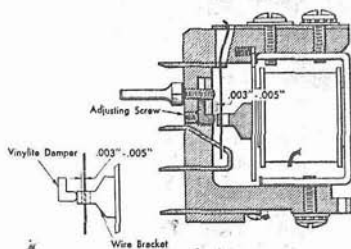

Figure 20
- Figure 20. The damper screw should be adjusted to allow .003" to .005" movement between the vinylite damper and the wire bracket before the wire bracket can move any contact wire. If the screw is loosened, the vinylite damper must be pressed back into the moulding before checking the clearance between the damper and the wire bracket. Once adjusted at the factory, the damper screw is sealed with cement #198896.